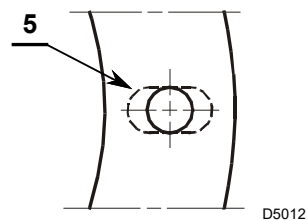

Fig. 7
- if necessary, widen the holes of the insulating gasket 5)(Fig. 7)).